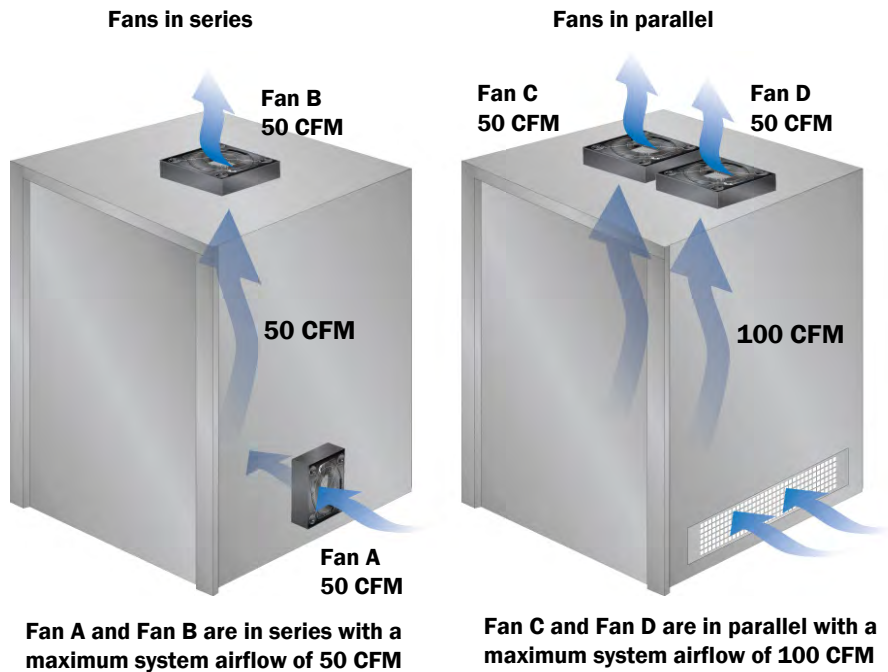

Figure 18 Fans in series do NOT produce double the airflow; fans in parallel combine airflow production
A fan moving 50 CFM of air located at the intake area of a rack and a 50 CFM fan at the rack exhaust can only move a maximum of 50 CFM through the rack. When fans are placed in series, the sensitivity to obstructions is reduced but the total airflow is not increased. To achieve 100 CFM, two 50 CFM fans have to be placed side by side, or "in parallel" as far apart as possible. See Figure 18.
- Try using radial fans (blowers) with equivalent airflow or add fans in series with the original fans. See Figure 18.